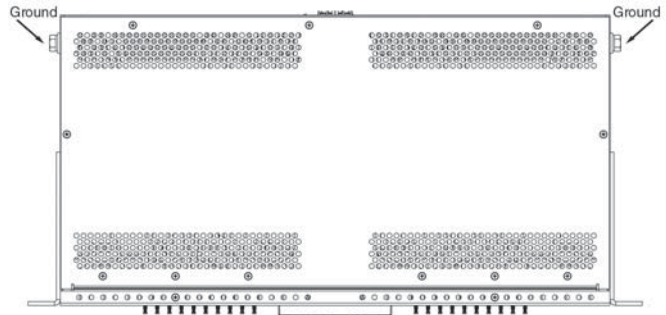

Figure 4 - Ground Lug Connection
4. Remove the transparent terminal cover, shown in Figure 4.